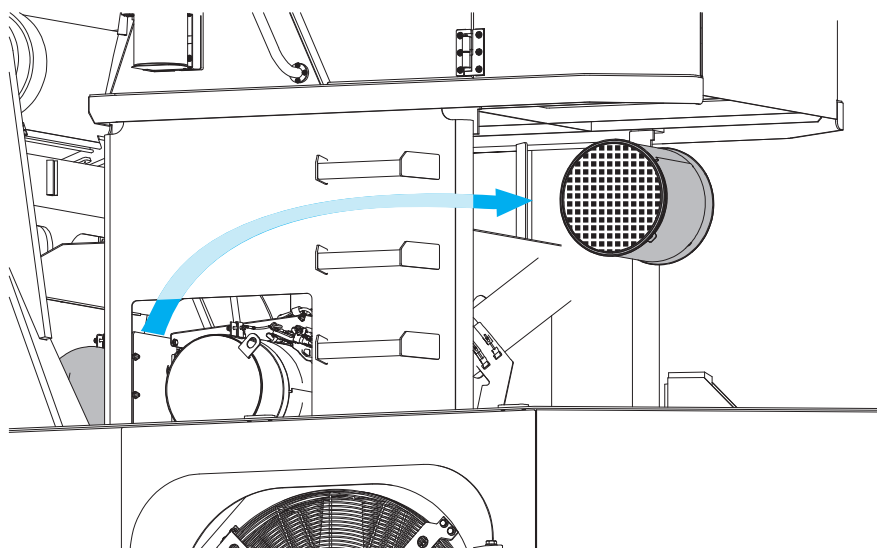

Figure 5-5-24 Removing Diesel Particulate Filter
The Diesel Particulate Filter (DPF) is mounted just in front of the superstructure assembly. See Figure 5-5-24.
4. Remove the DPF. Route through the superstructure. See Figure 5-5-24.